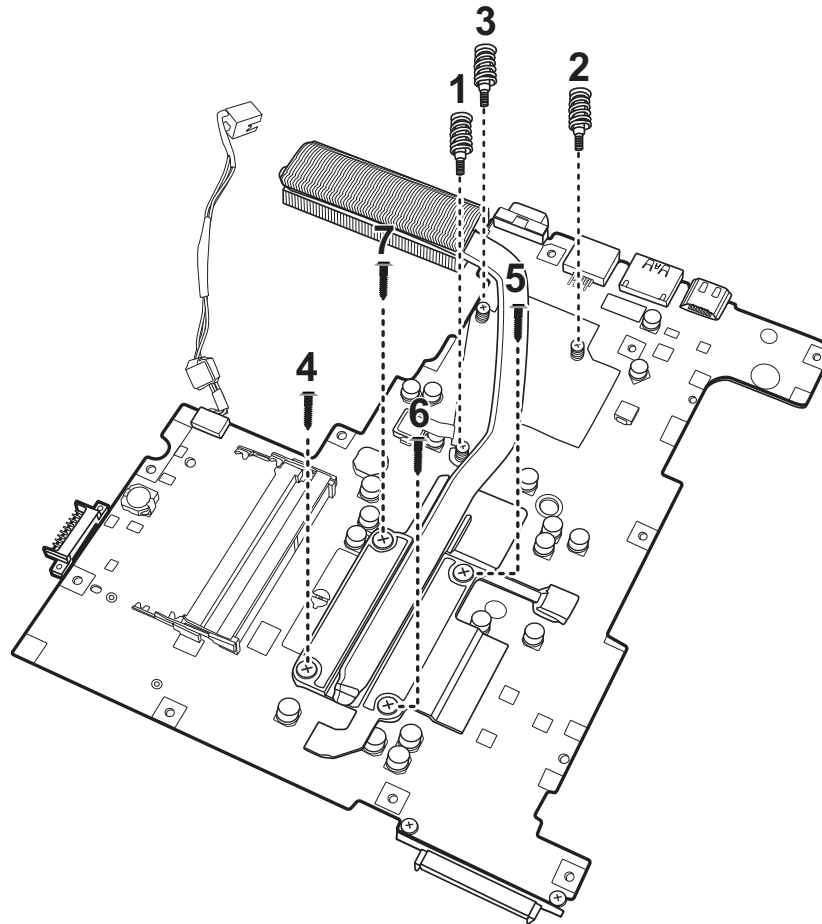

Figure 4.35 Removing the Thermal Module spring screws
1. Remove the seven spring screws securing the thermal module in the sequence indicated in Figure 4.35.